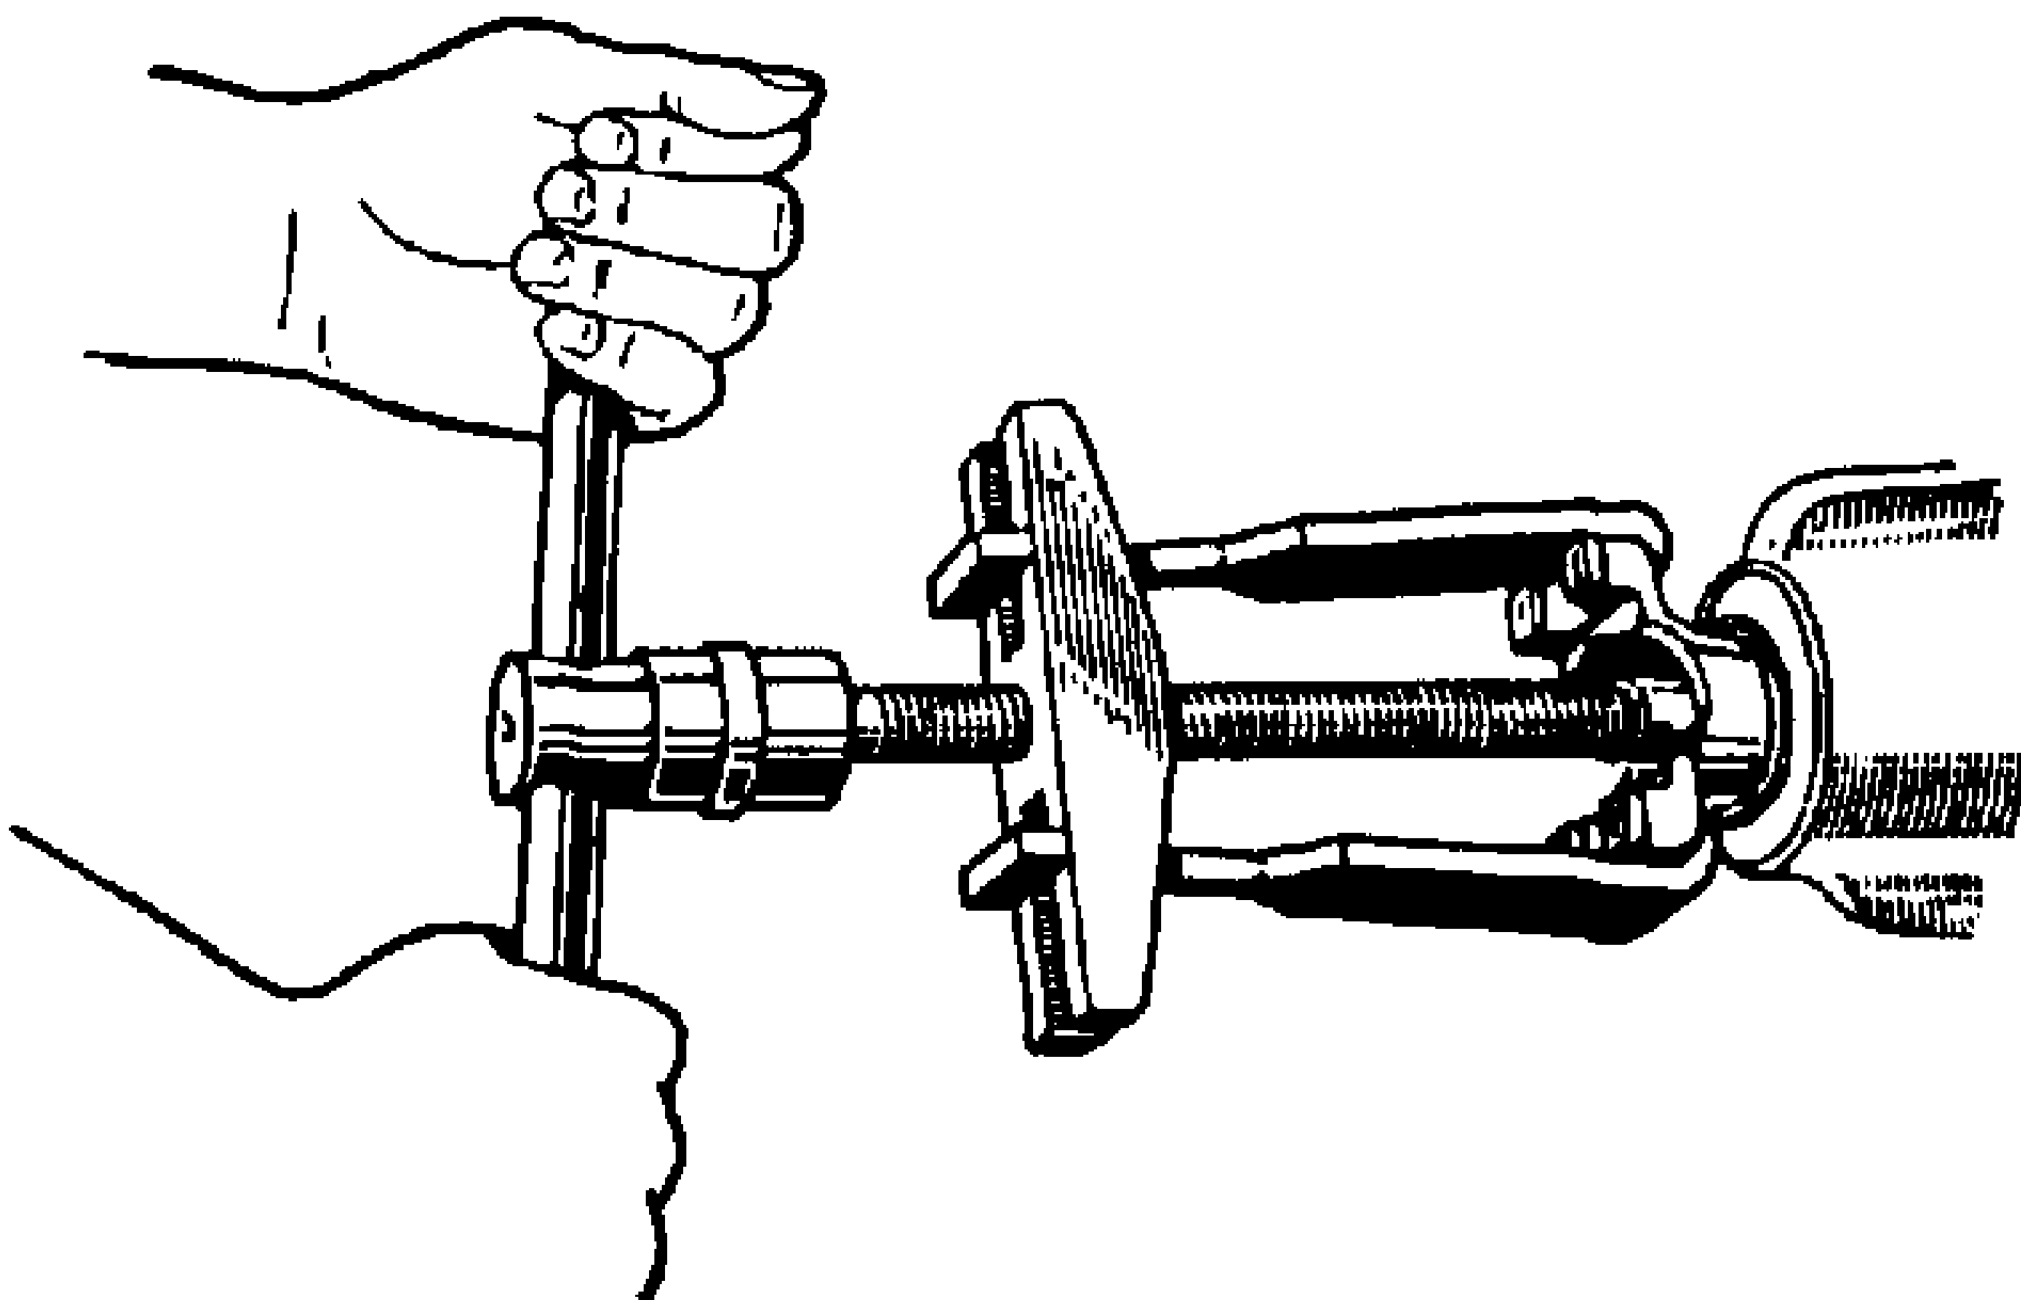

FIG. 4--REMOVING U. J. END YOKE
9. Remove universal joint end yoke assembly No. 59 with puller shown in Fig. 4.